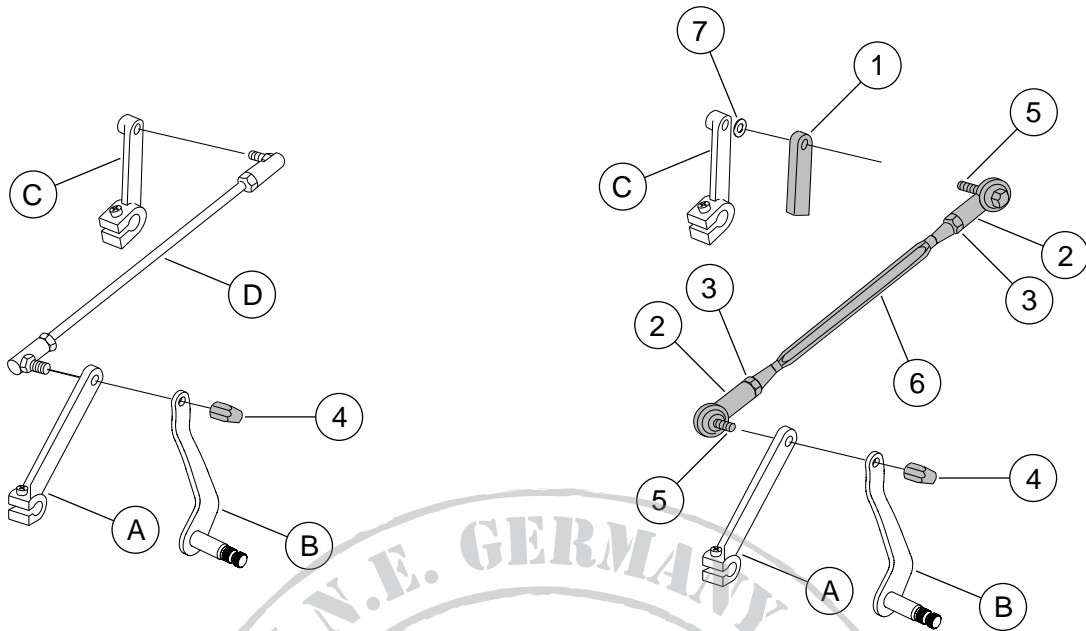

Figure 1. Service Parts: Aluminum Shifter Linkage
See Figure 1 and Table 2.
- See Figure 1. Remove stock shifter rod (D).
- Adjust new shifter rod in kit to match the length of the removed shifter rod by loosening locknuts (3), adjusting the length of the rod, then tightening locknuts to 20-24 ft-lbs (27-32 Nm).
- For models with a straight rear shifter rod lever:** Discard spacer (7). Place cover (1) over the shifter rod lever (C).
**For models with an offset rear shifter rod lever:** Place spacer (7) and cover (1) over the shifter rod lever (C).